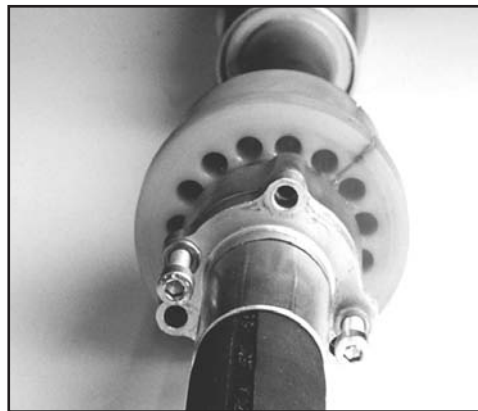

FIG. 54: 2 SCREWS USED AS JACK SCREWS
3. Use 2 socket head cap screws as jack screws to remove the whip hose (see Fig. 54).